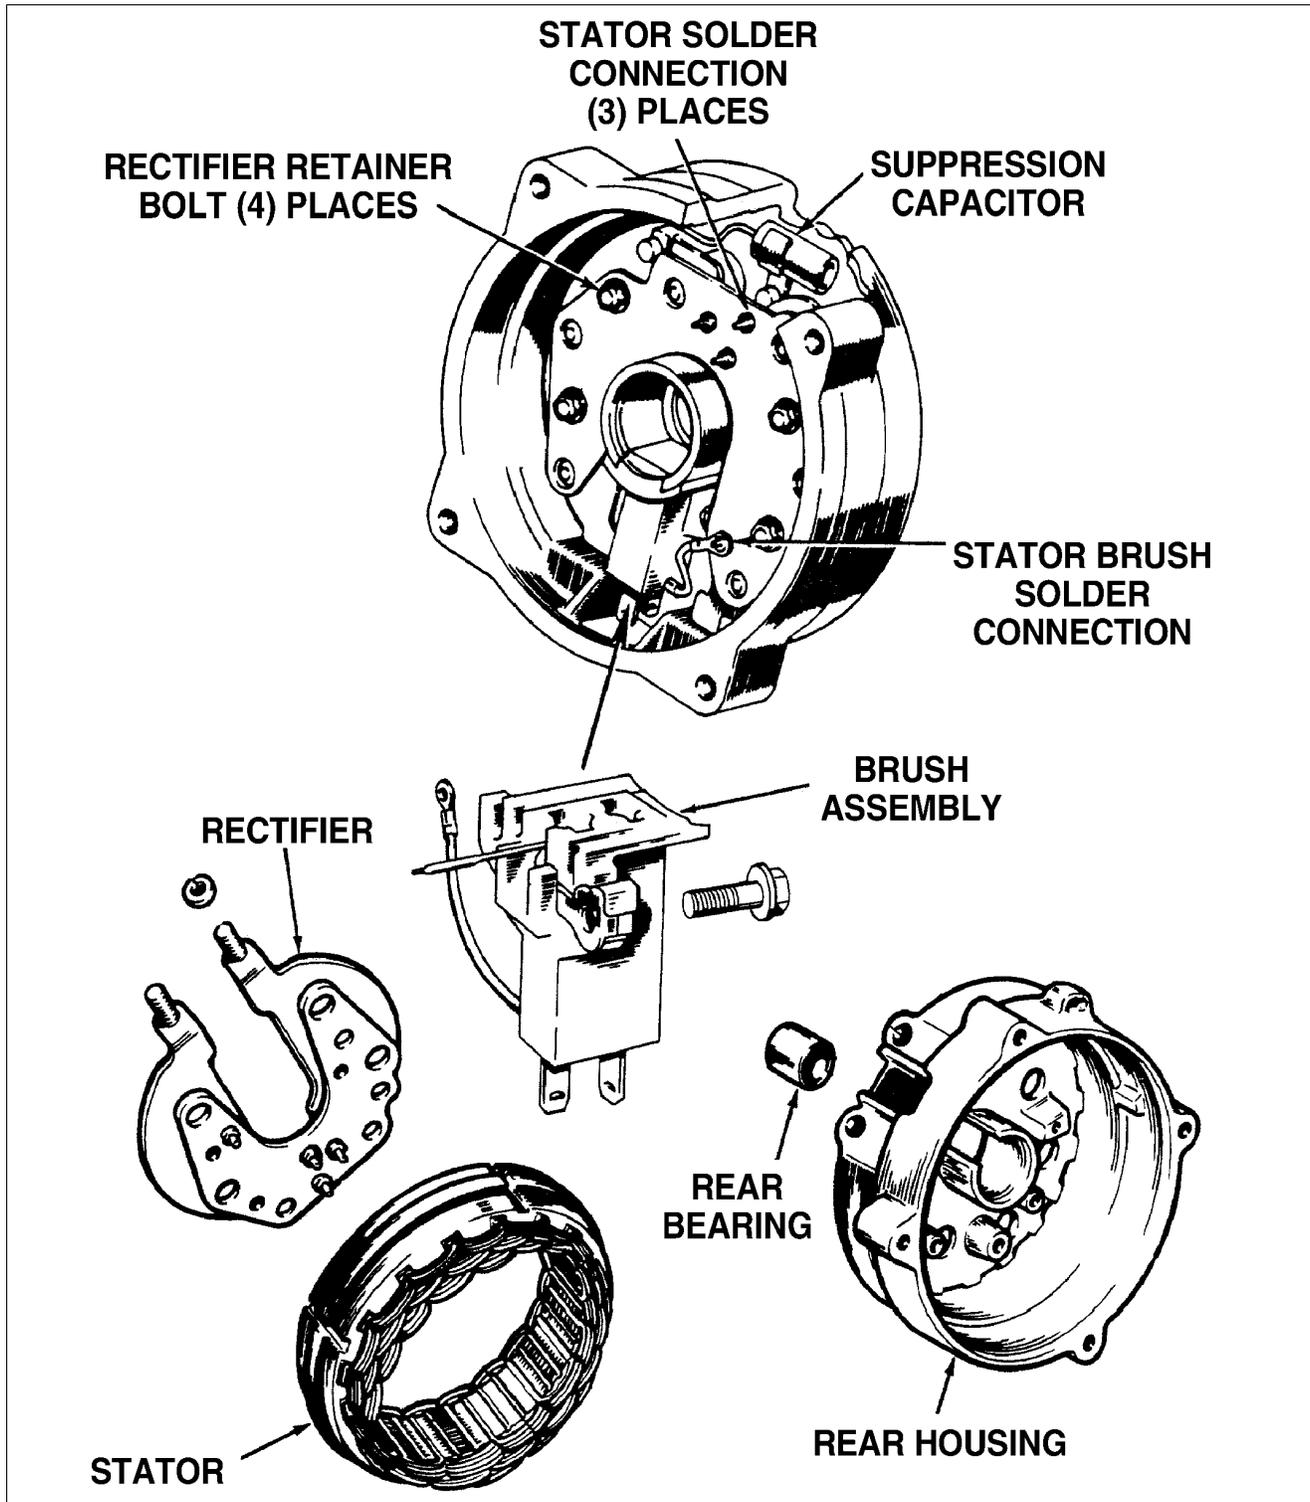

Figure 24-10. Rear Housing Components
- (4) It is not necessary to disassemble the complete rear housing to replace the brush assembly only. Unsolder the stator lead, remove two screws securing the brush holder assembly. (Refer to Figure 24-10.) (Refer to the Assembly Section for installation procedure.)
- (5) Remove four retainer bolts from rectifier assembly, two retainer bolts from brush assembly, and one screw from radio suppression capacitor lead. Remove stator, rectifier assembly and brush assembly from rear housing.
- (6) If replacing the rear shaft bearing, support housing on the inner bearing boss and press bearing from housing.
- (7) If the rectifier is to be replaced, or, if the stator and diodes are to be bench checked, separate rectifier from stator by unsoldering terminal connections of stator windings and rectifier assembly. (Use 100 Watt soldering iron to prevent excessive heat buildup.)
- (8) Unsolder stator terminal from rectifier.